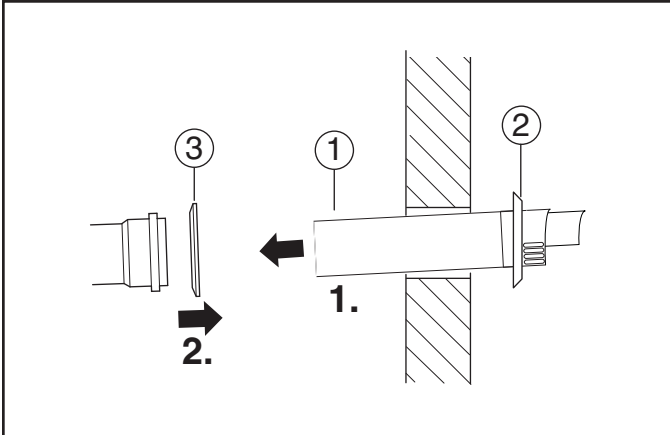

Fig. 6 Inserting termination from the outside
- ▶ Position terminal [1] from the outside through the vent opening so rubber thimble [2] is flush against outside wall (Fig. 6) .
- ▶ Slide the inner wall seal [3] onto the terminal [1] as shown (Fig. 6).